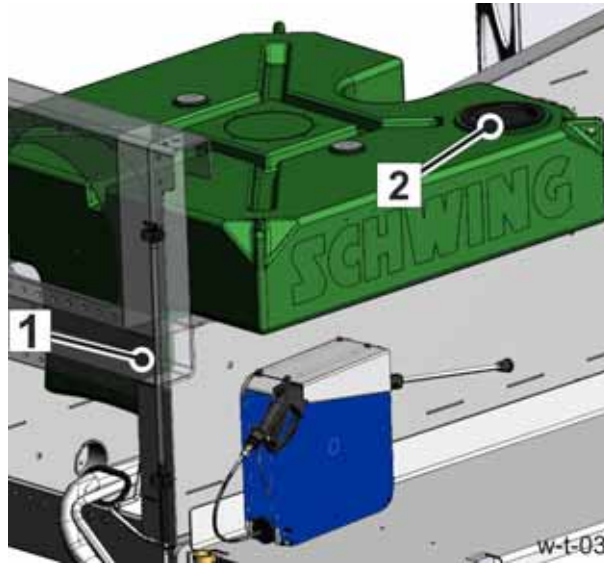

Fig. 187 Example
- Remove the filling cap (2) (Fig. 187 Example) on the top of the reservoir.